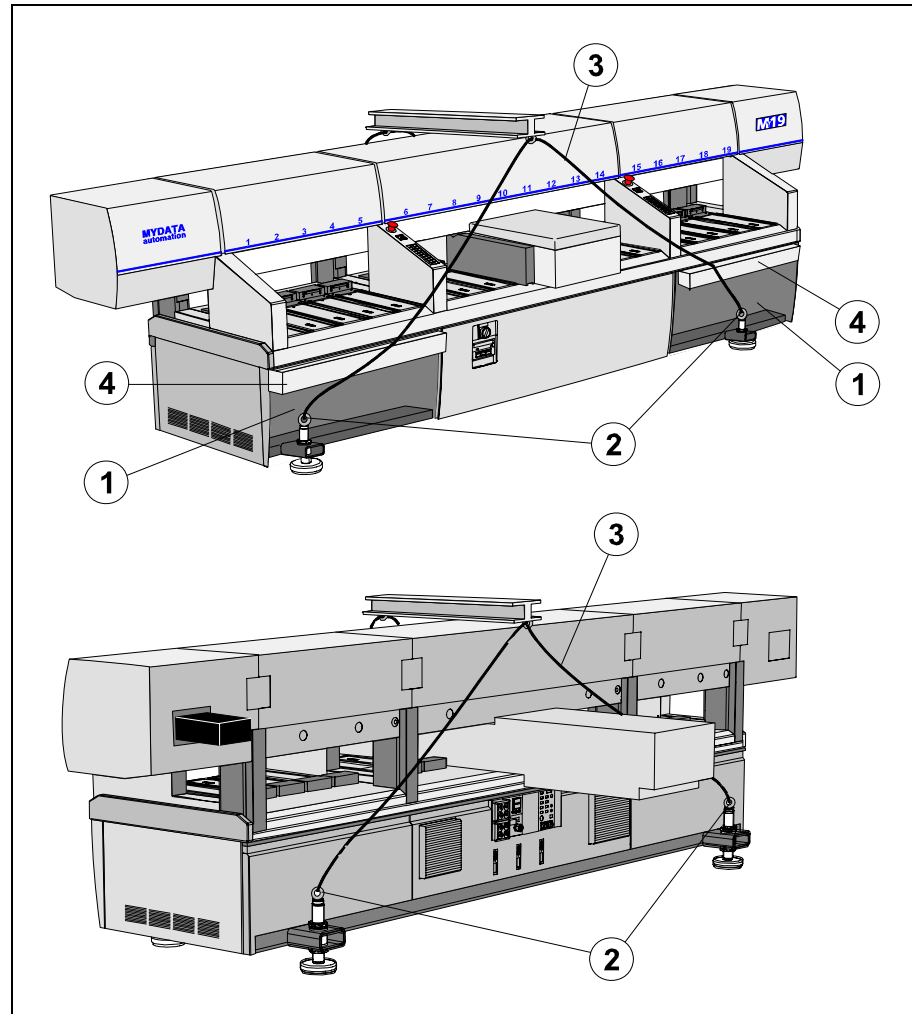

Figure 2-4. Crane lift.
Figure 2-4 shows a MY19 machine, but the procedure is the same for all the machines in the MY series. The numerals in Figure 2-4 refer to the description.
3. *For MY9:* Fit the hoisting cable as in Figure 2-4 for the two eye bolts on the rear of the machine. Fit the front hoisting cable *around* the two front leveling feet.